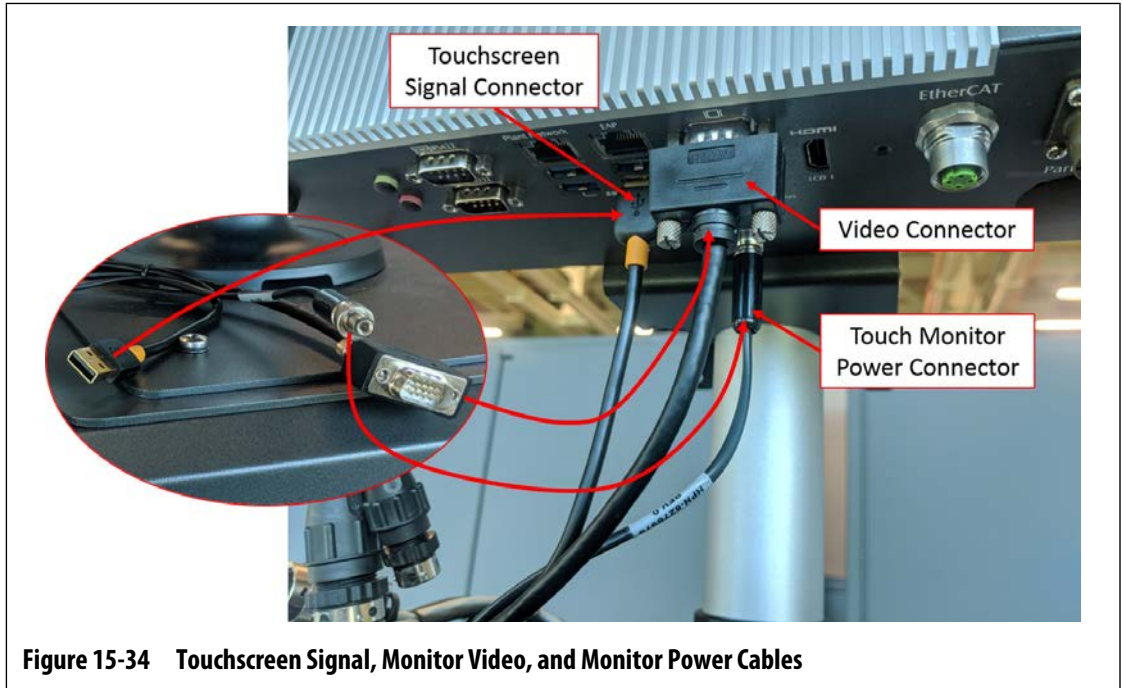

Figure 15-34 Touchscreen Signal, Monitor Video, and Monitor Power Cables
7. Connect the Touchscreen Signal cable connector, Touch Monitor Video cable connector and Touch Monitor Power cable connector to the Touch Screen connector, LCD 12 VDC connector, and VGS connector on the bottom of the MCU. Refer to Figure 15-34.